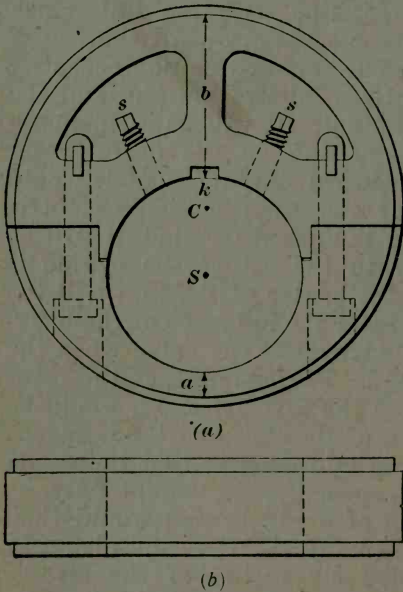

Fig. 10
A standard form of eccentric is shown with strap removed in Fig. 10, in which (a) is a side view and (b) a plan. Usually eccentrics are made of cast iron, although cast steel is now being used to some extent
of the eccentric and the center (S) of the hole bored in it to receive the axle is called the **eccentricity** of the eccentric. In other words, considering the eccentric as a form of crank, the distance between the center (C) and (S) may be considered as the length of its crank-arm. The throw of the eccentric is twice the distance between (C) and (S), just as the throw of a crank is twice the length of its crank-arm. When an eccentric is on a driving axle its throw may be determined by measuring the least distance (a) (Fig. 10) and the greatest distance (b) between the axle and the edge of the eccentric, and subtracting the distance (a) from the distance (b). The throw, of course, will be just half this difference.